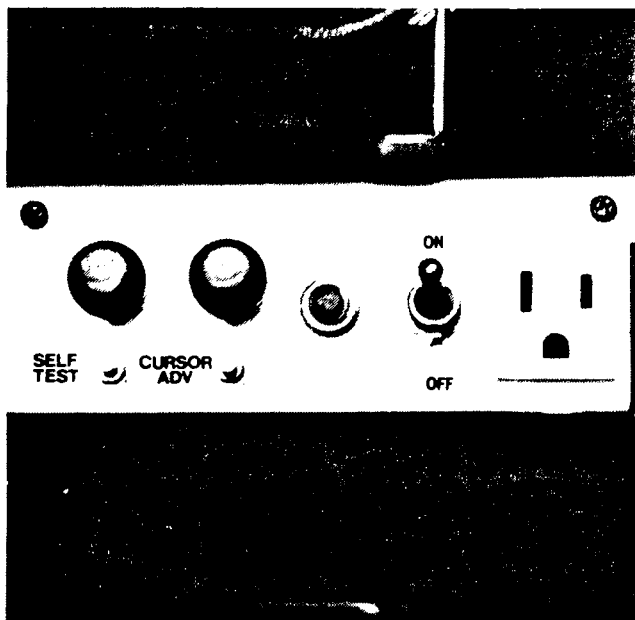

Figure 4-1
- 1) Turn the main power ON and allow the machine to warm up. See Figure 4-1.
The Self Test mode allows the functional checkout of the video and sound outputs, as well as both the input and output ports of the Interface board. The Self Test mode is entered by pressing the Self Test switch. See Figure 4-1. Repeatedly pressing the Self Test switch will access all tests.